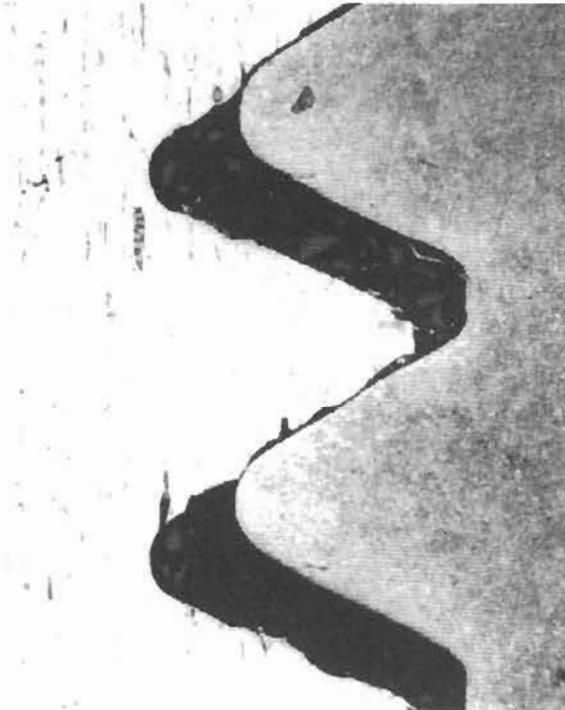

Fig. 1: M 4 x 16 in a pre-cut thread
- The thread forming operation of a Spiralform® screw ensures that the contact area between the screw thread and the mating material is optimised when compared to a pre-cut thread. (see figures 1 & 2)